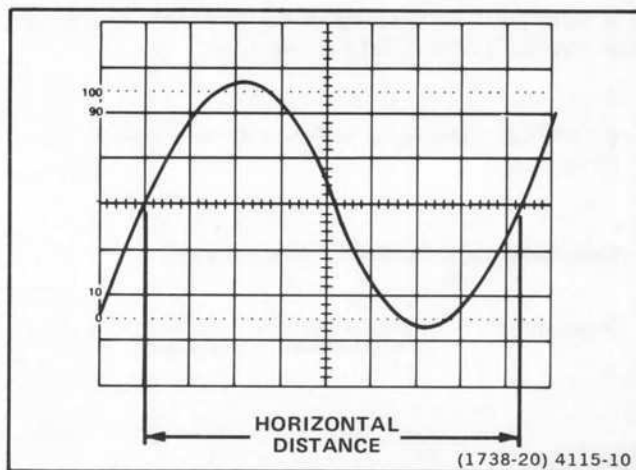

Figure 17. Time duration.
5. Position the display to place the time-measurement points on the center horizontal graticule line (see Figure 17).
**EXAMPLE:** The distance between the time-measurement points is 8 divisions (see Figure 17), and the A SEC/DIV switch is set to 2 ms. A magnification factor of 1 is used.
**EXAMPLE:** The signal in Figure 17 has a time duration of 16.6 ms.